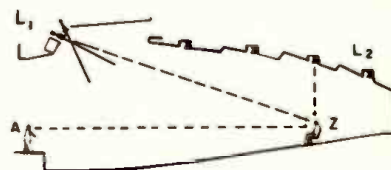

Fig. 1—Hall with both a distributed loudspeaker system and a central system.
Figure 1 shows a hall with both types of systems. Reasons for the superiority of the central loudspeaker systems over the distributed-loudspeaker system are fairly well illustrated in this example. Remembering that sound travels at about 1130 feet per second, the listener over at "Z" would hear sound in the nearby distributed loudspeaker well in advance of sound from the stage. This would have two bad effects (1) he'd localize sound as coming from the loudspeaker rather than from the stage, and (2), the live sound from the stage would be delayed sound with respect to the